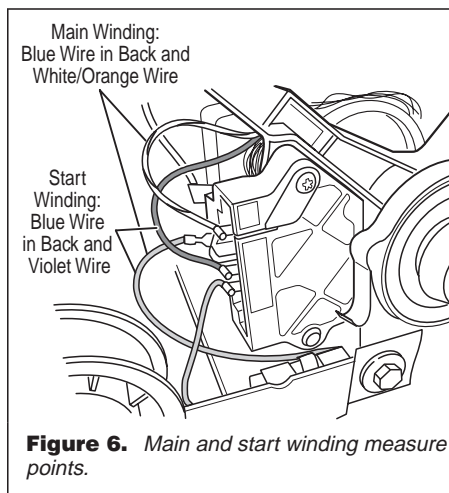

Figure 6. Main and start winding measure points.
6. Using figure 6, check for the resistance values of the motor's Main and Start winding coils as shown below.